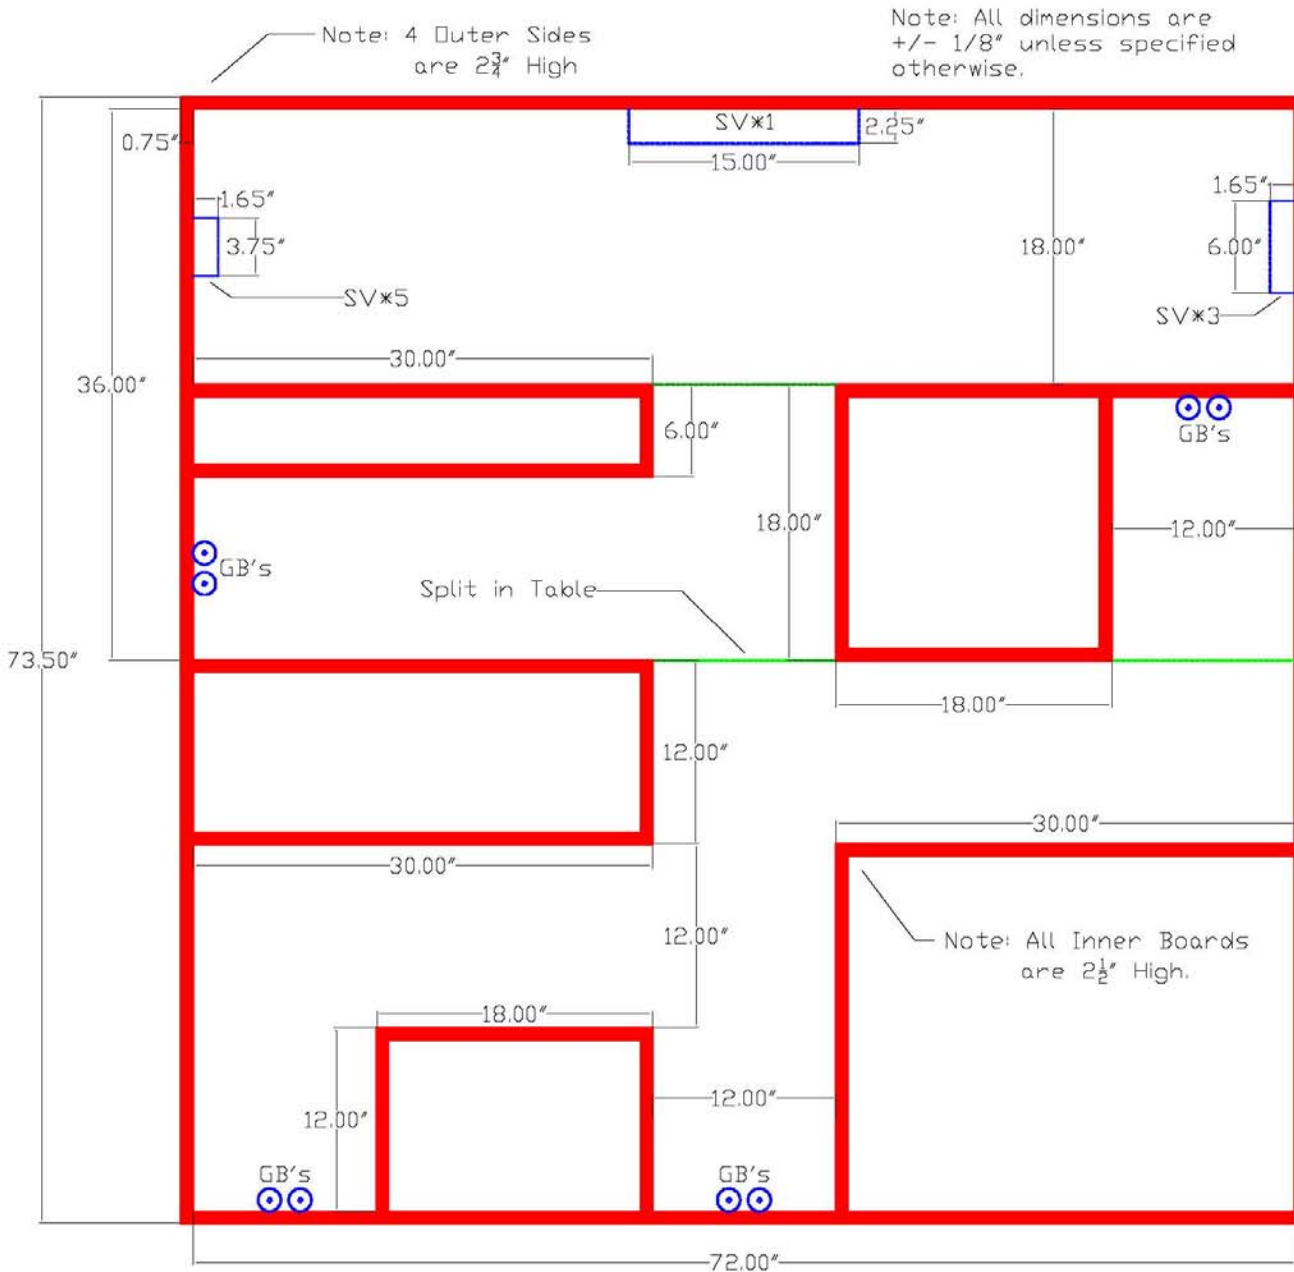

Figure 2 – Competition Board with Barriers, GBs, SVs, and Tape Layout.
1. The *system* shall be designed to perform on the competition surface (**within the outer sides**) as is shown in **Figure 2** under the Competition Surface section.
6. The *system* shall collect GBs (ping-pong balls) from any of four (4) locations (aka, GBsites) within the maze.
7. The *system* shall deliver GBs to any of three (3) SVs.